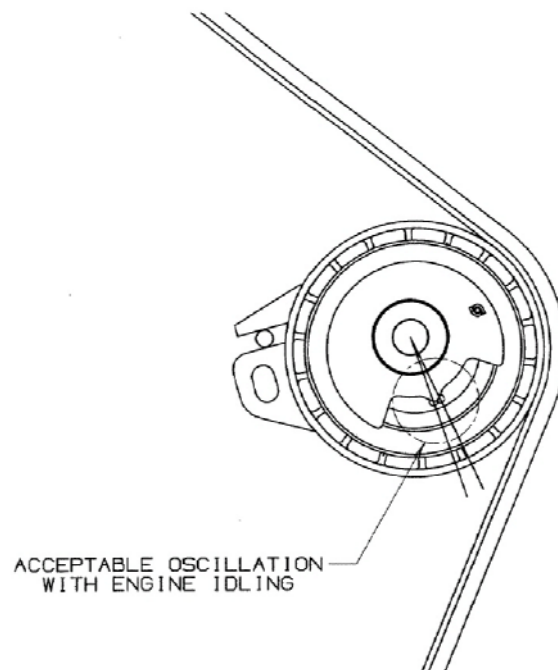

Figure 6: Acceptable Tensioner
12. Tensioner should have small oscillation about the nominal position with the engine running at idle (See Figure 6)